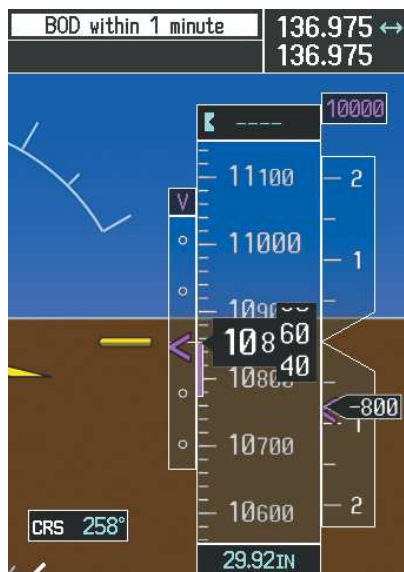

Figure 7-40 Approaching Bottom of Descent (BOD) at OPSHN Offset Waypoint
- 17) When the aircraft is one minute from the bottom of descent (BOD) it is annunciated as shown in Figure 7-40. Upon reaching the offset waypoint for OPSHN, the aircraft is at 10,000 feet.